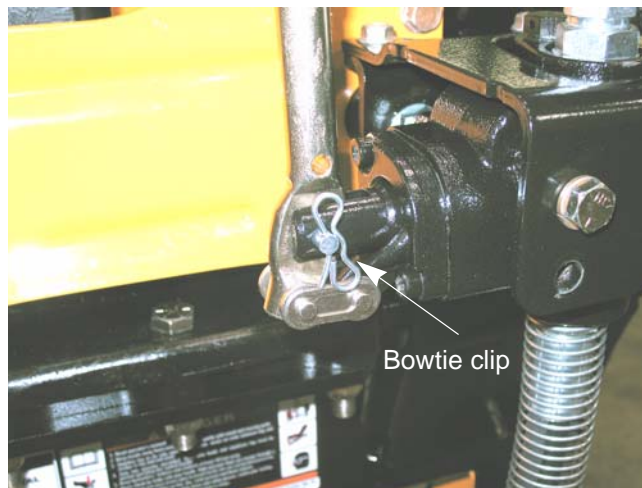

Figure 4.11
2. Remove the bowtie clip and the clevis pin. See Figure 4.11.